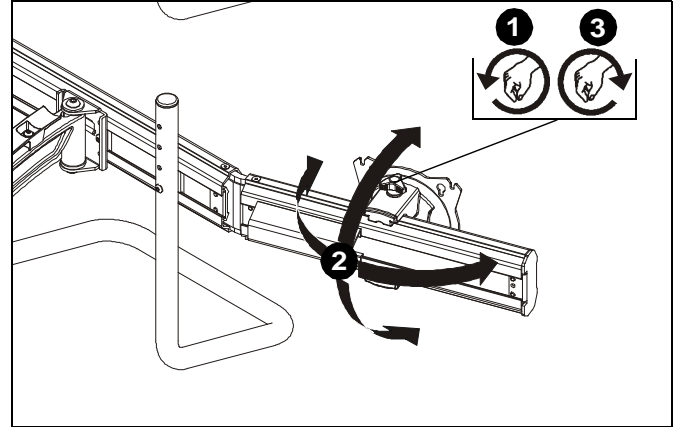

Figure 20
1. Loosen knob on top of faceplate assembly. (See Figure 20)
2. Adjust pitch, roll and/or yaw as desired. (See Figure 20)
3. Tighten knob to secure desired faceplate position. (See Figure 20)